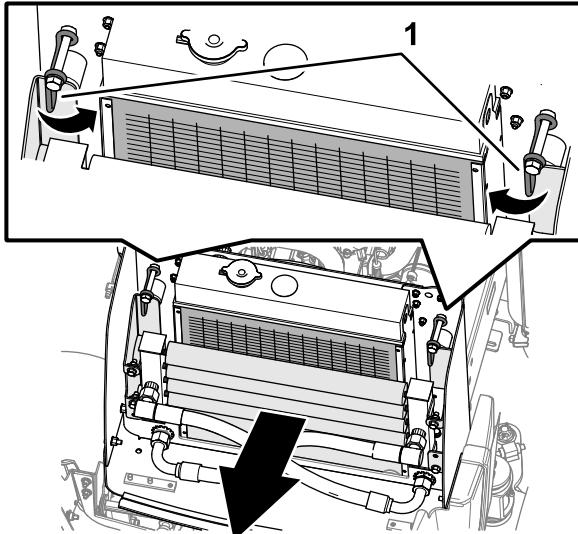
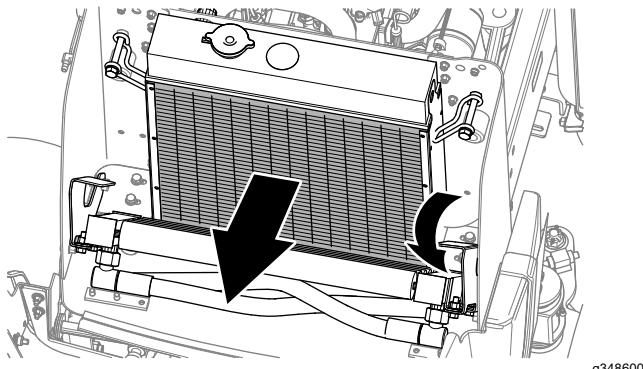

Figure 80
Figure 81
6. Clean the oil cooler with low-pressure (50 psi) compressed air (Figure 80).
7. Rotate the oil cooler latches inward, and pivot the oil cooler (Figure 80 and Figure 81).
8. Working from the fan side of the radiator, blow out debris with low-pressure (50 psi) compressed air (Figure 81). Repeat this step at the front of the radiator, and again from the fan side. Thoroughly clean both sides of the oil cooler.